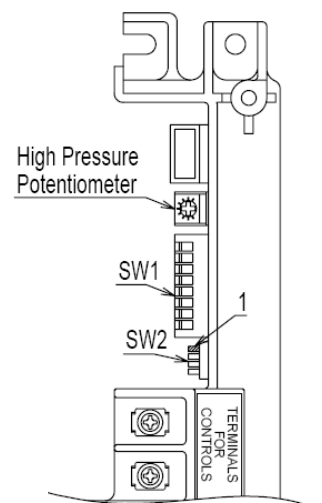

Fig. 6
15. Adjust the **High Pressure Potentiometer** on the Printed Circuit Board SW1 (Fig. 6) to the pressure shown above. The potentiometer is very sensitive, turn no more than a few degrees at a time; then let the pressure settle down before turning it more.